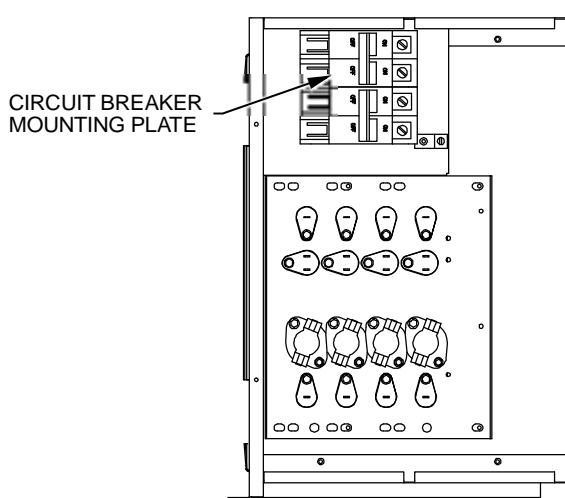

FIGURE 2
8. Attach the circuit breaker mounting bracket inside the top left corner of the electric heat kit box (Figure 2). Ensure the breaker is oriented with OFF position to the left. Remove the two (2) sheet metal screws prior to installation and re-attach as shown in Figure 3.